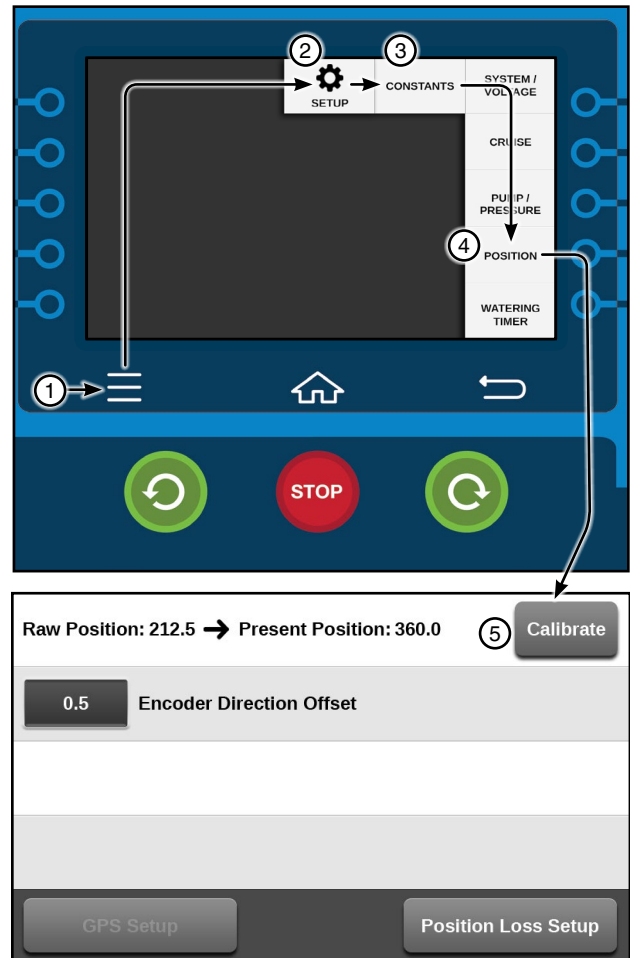

Figure 41-1 1. Menu
- (f) Push the **Calibrate** button and enter the pivot position in degrees on the numeric keypad. See Figure 41-1.